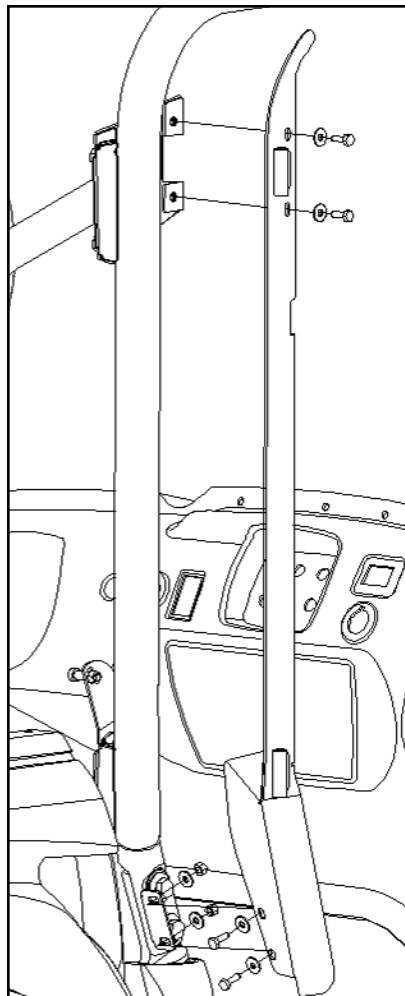

Figure 8.1 View of driver's side rear
8.1 Install the door hinge panel as shown in Figure 8.1. Use four 1/4-20 hex head bolts with 1/4" flat washers. The top two bolts are installed into the weldnuts. The lower two bolts should be fastened with a washer and nut on the inside of the part. Adjust the part so that the bolts are in the center of the slots to start.